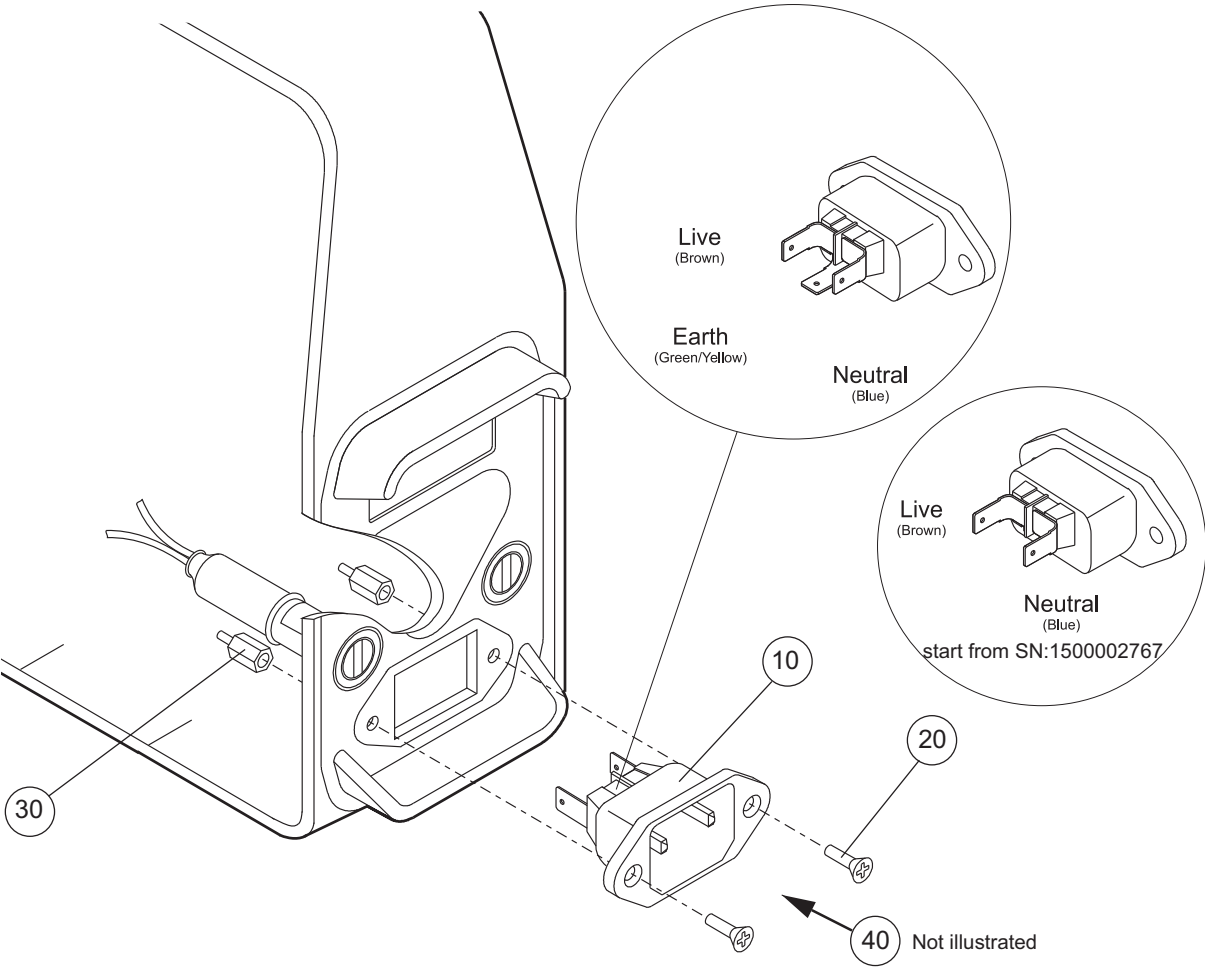

Figure 19 - Replacing the Mains/Power Inlet Socket
24.3 Remove the screws (Fig 19, Item 20), the pillars (Fig 19, Item 30) and the Mains/Power Inlet Socket (Fig 19, Item 10) from the pump casing.
24.4 Install the Mains/Power Inlet Socket (Fig 19, Item 10) into the pump casing ensuring that the 2 connectors are uppermost.
24.5 Install the screws (Fig 19, Item 20) and the pillars (Fig 19, Item 30).